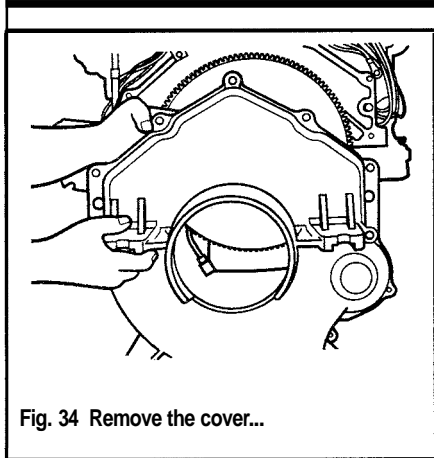

Fig. 34 Remove the cover...
- ◆ See Figures 34 and 35
- ◆ See Figures 34, 35 and 36